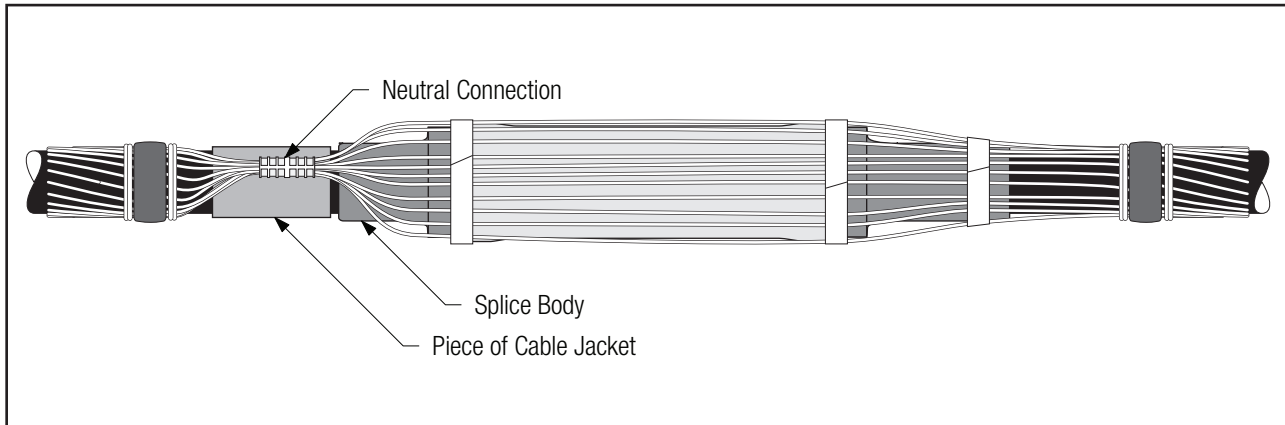

Figure 33
- 8.2.4 Use a piece of cable jacket, removed during cable preparation, to cover and protect exposed cable semi-con under the area where the neutral and/or ground connection will be made. Secure with tape. Ensure that the cable jacket piece does not touch the splice body (*Figure 33*).
- 8.2.5 Connect neutrals using a suitable compression connector (“INLINE,” “C,” or “H” type) between jacket end and reduced splice diameter. Keep connector profile as low as possible. Crimp connector following the connector manufacturer’s recommendation (*Figure 33*).